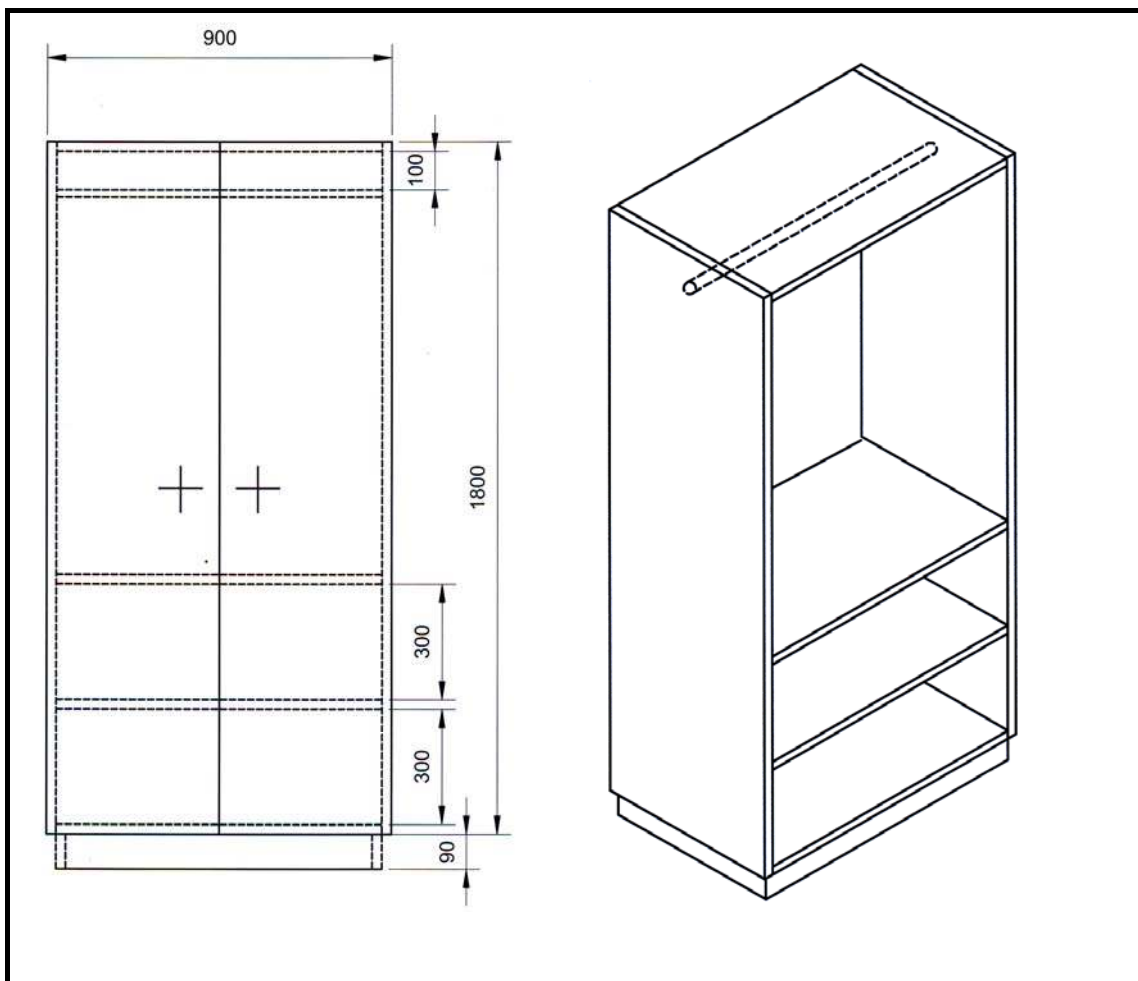

FIGURE 4.2
- (1)
4.2 FIGURE 4.2 below illustrates the front view and isometric view of a free-standing clothing cupboard, made out of melamine board, with a 3 mm masonite (hardboard) back. The doors are omitted in the isometric view to show more details.